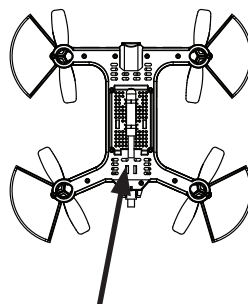

Fig. 10
- See illustration Fig. 10 for the position of Micro SD card slot.
- To take a picture momentarily press the camera button (5) at the transmitter, a momentary led lighting system flashing indicate you that photography was successful.